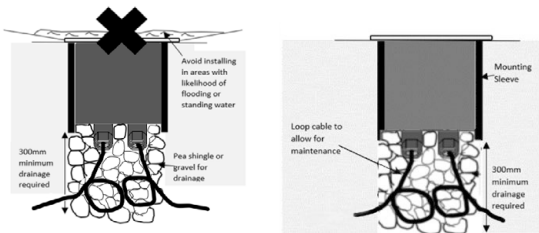

Fig. 2
- We recommend not installing in areas where there is a high risk of flooding or areas where water may sit on top of the fitting (see Fig. 2)
- Ensure a minimum of 300mm of drainage below the luminaire (see Fig. 2)